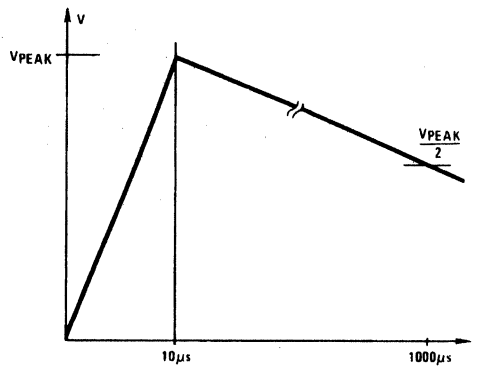

FIGURE 19. SIMULATED LIGHTNING STRIKE WAVEFORM
amplifier outputs appear to the surge as very low impedance paths to the system battery. Once the surge reaches the feed resistors, fault current will flow into or out of the feed amplifier output stages until the relevant protection diodes switch on. Bench measurements have indicated peak fault currents of up to 150mA into and out of the SLIC during the finite turn on time of the diode bridge. Once the necessary diodes have started to conduct all the fault current will be handled by them. The geometry of the SLIC and its package has been designed to withstand the full rated peak fault voltage at its tip (T) and ring (R) terminals: for ceramic packages this is 500V peak, and for plastic (or epoxy) packaged SLICs this is 1000V peak. The circuits are rated against standard lightning characteristics defined by Figure 19. The ceramic package contains an air gap whereas the plastic packages contain no void. The dielectric constant of air is lower than that of the epoxy and it is this which breaks down at lower voltages than the plastic compound.